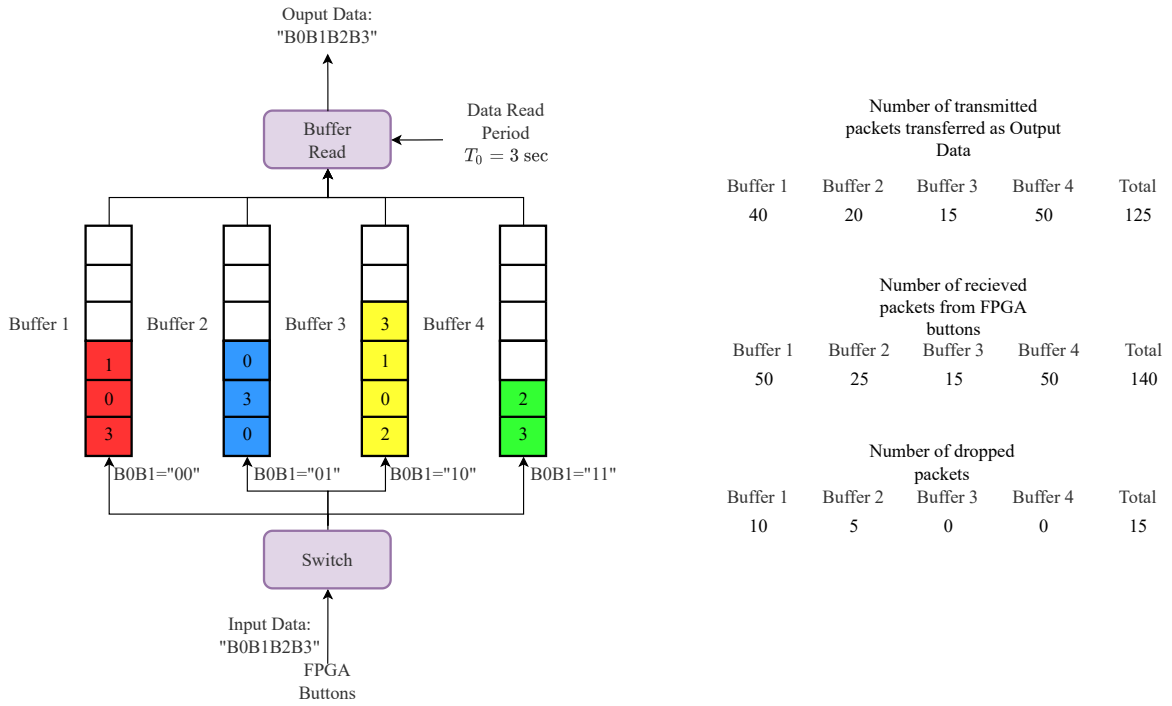

Figure 1: Example Buffering System.
You are going to implement your project on the FPGA boards that you will borrow from us. In the project, you will manage data traffic between two nodes, where four different message types are transmitted as shown in Figure 1. The input of the system will be a 4-bit sequence (call it as a packet) which is generated by the FPGA buttons. You may use one button for "0" and one for "1". By pressing the buttons, you will generate a bit sequence. In addition, before creating each bit sequence, you should press a start button to indicate that a packet is to be transmitted. The first two bits of the packet ("B0B1") are the header bits, and based on the header bits, you should fill the corresponding buffer with the remaining value in decimal form. As can be seen in Figure 1, there are four buffers, which are represented with different colors. The buffer depth is 6 so you can store at most 6 packets at each buffer. If a new packet arrives at a buffer, which is full, then the oldest data is deleted (packet dropping), and the newcomer is added to the queue after shifting the remaining data by one register. You may use the array structure of Verilog HDL to implement buffers. For example, if the bit-sequence "0110" is sent after pressing the start button, your code should make the next white box of "Buffer 2" blue and print "2" inside that box. The second part of the project is to read the data from suitable buffers. For this purpose, you should implement an algorithm that decides the buffer from which data is read, according to the given criteria. For a given buffer, the oldest data is read first, in a first-in-first-out manner.
- You are going to design the main screen using the VGA interface, at 640×480 resolution. On your main screen, which may resemble Figure 1,